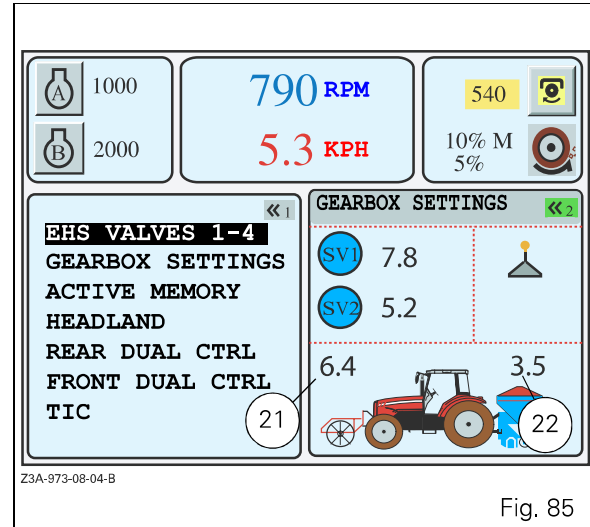

Fig. 85
- Validate by pressing the encoder or the key «2. The window (Fig. 85) is displayed.